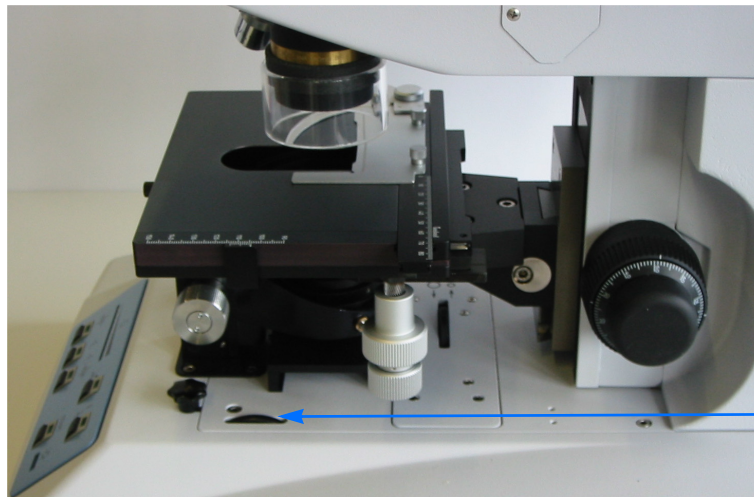

Figure 2: Microscope Setting Control Elements (Right Side View)
- While looking through the binocular, adjust the visible light intensity by turning the thumb wheel of the visible light intensity control (figure 2) until you get a well-illuminated image.